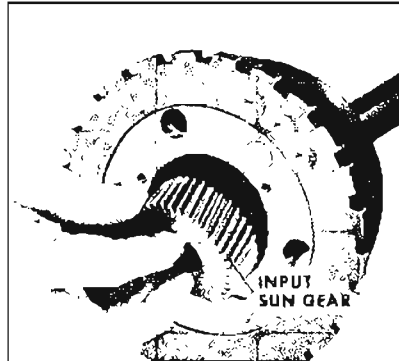

Figure 5-251
7. Remove input sun gear. See Figure 5-251.